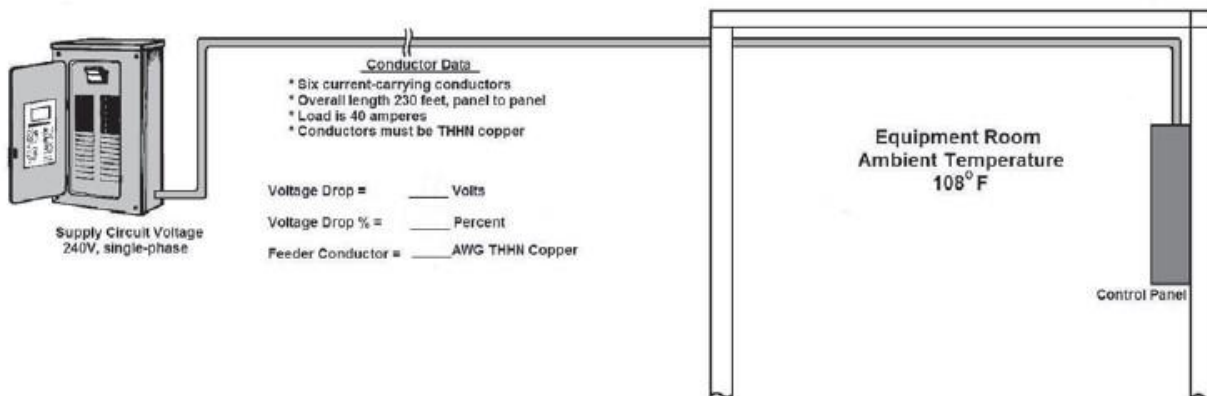

Figure 1 ■ Branch Circuit Installation, Panel-to-Panel
1. Refer to Figure 1. Determine the minimum size THHN copper conductor that can be used in a 40-ampere feeder circuit.
2. Derate the ampacity of the conductor size found in Step 1 for the ambient temperature and the number of current-carrying conductors in the raceway, as shown in Figure 1.
11. Enter your answers in the spaces provided on Figure 1.